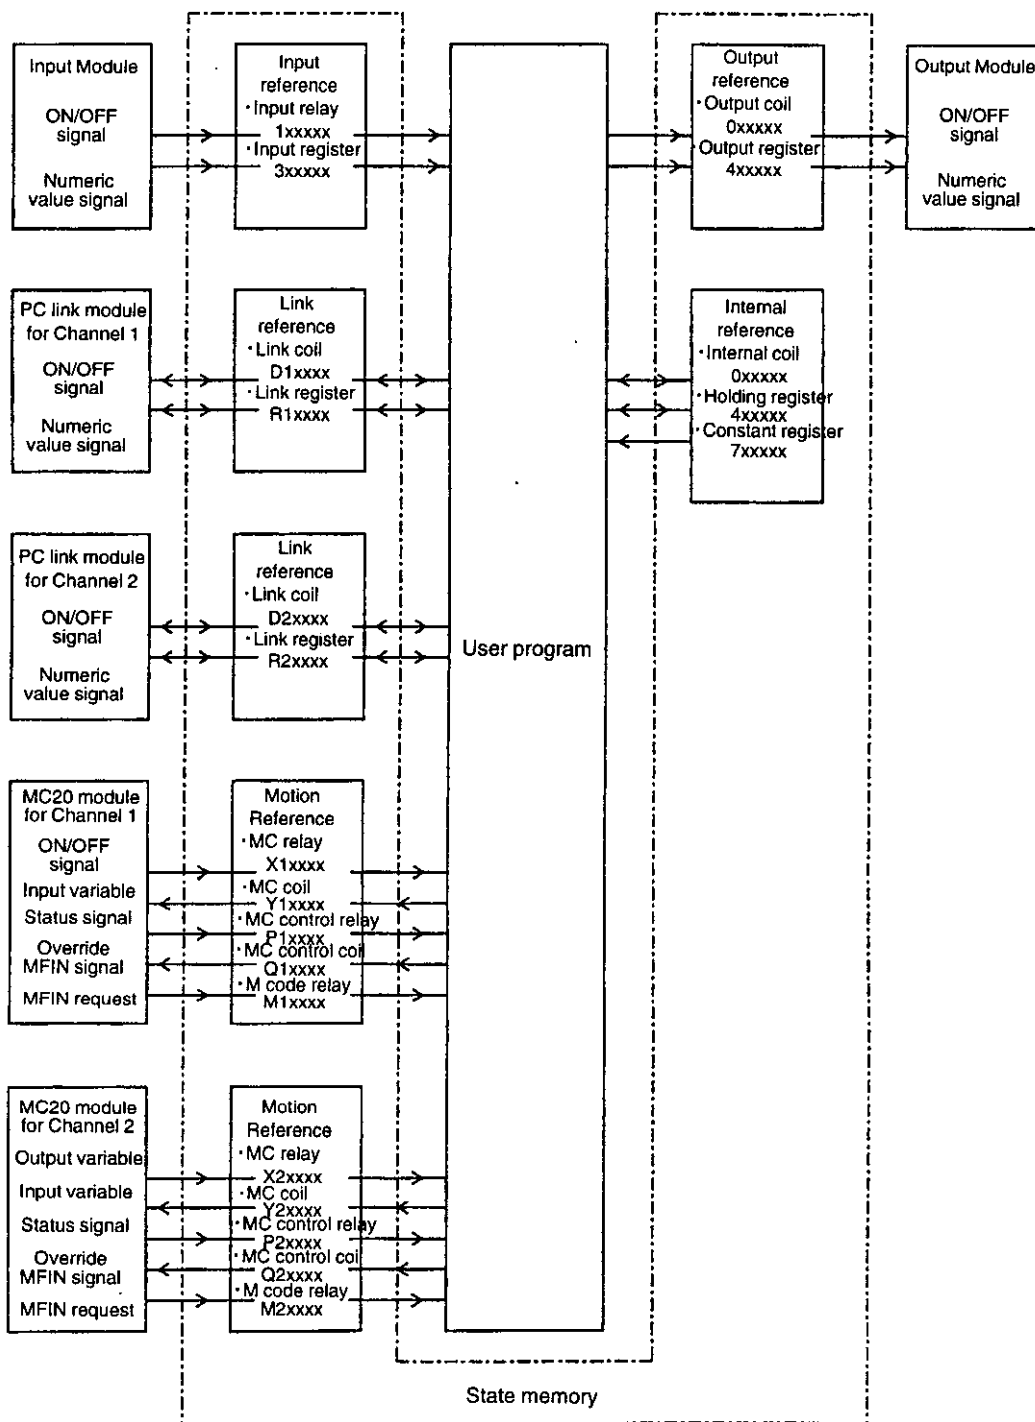

Figure 2.20 Reference Data and User Program
- 1) Reference data is saved to memory called "state RAM" in the CPU Module. The relationship between reference data and the user program is shown in *Figure 2.20*. Left arrows in the figure indicate the writing of reference data, and right arrows indicate reading.